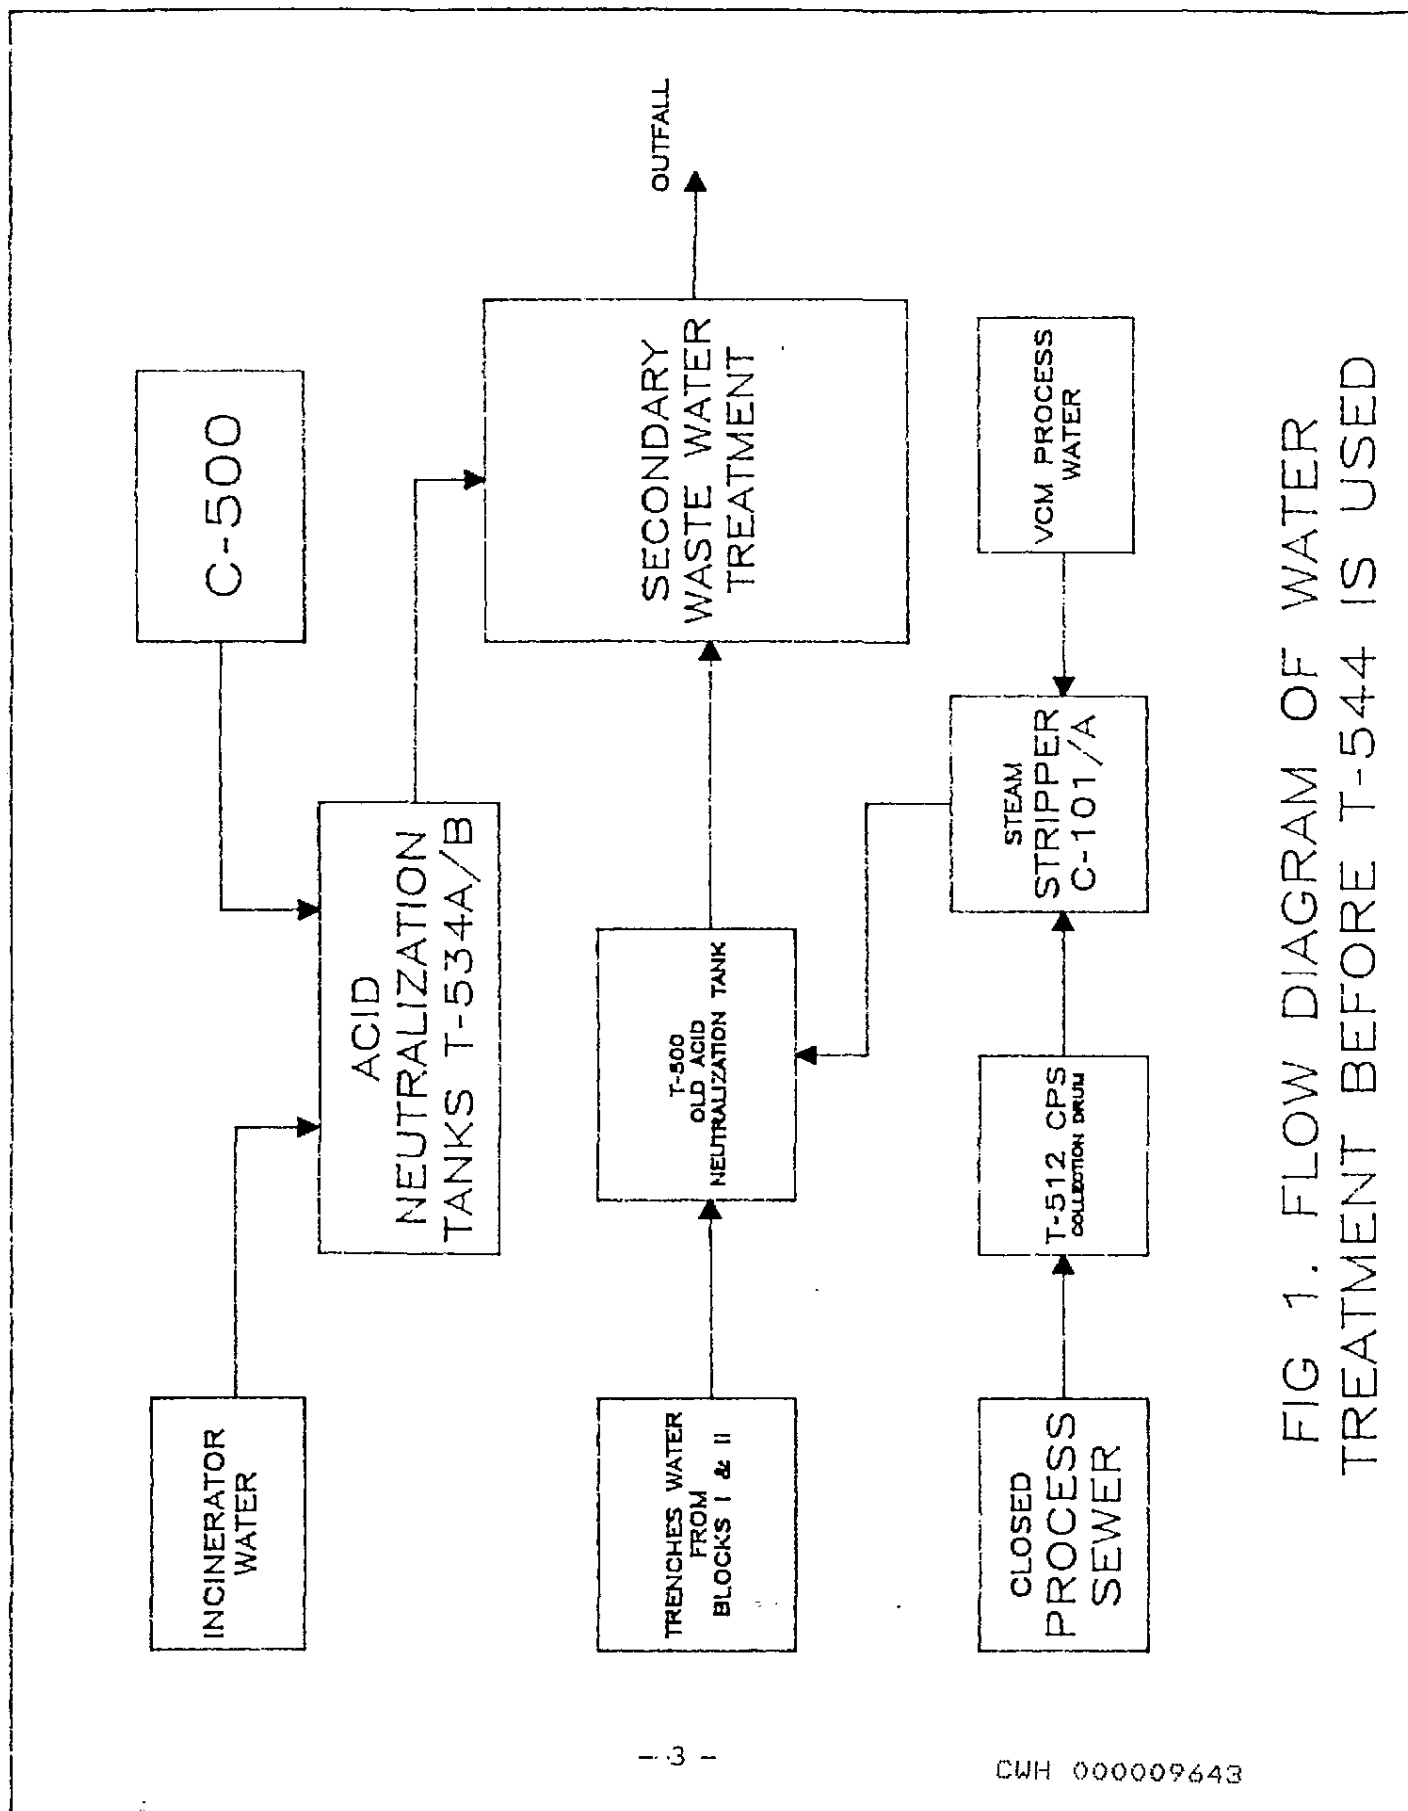

FIG 1. FLOW DIAGRAM OF WATER TREATMENT BEFORE T-544 IS USED
3. Process area runoff water is often contaminated with EDC as a result of unpreventable spills and miscellaneous fugitive discharges that could not be handled by the closed process sewer system or the mobile recovery pot system. It is collected by trenches and flows into T-500, an old acid neutralization tank, where the process area runoff water, without being treated of EDC, combines with the steam stripper bottoms and flows into the secondary. (Figure 1.)